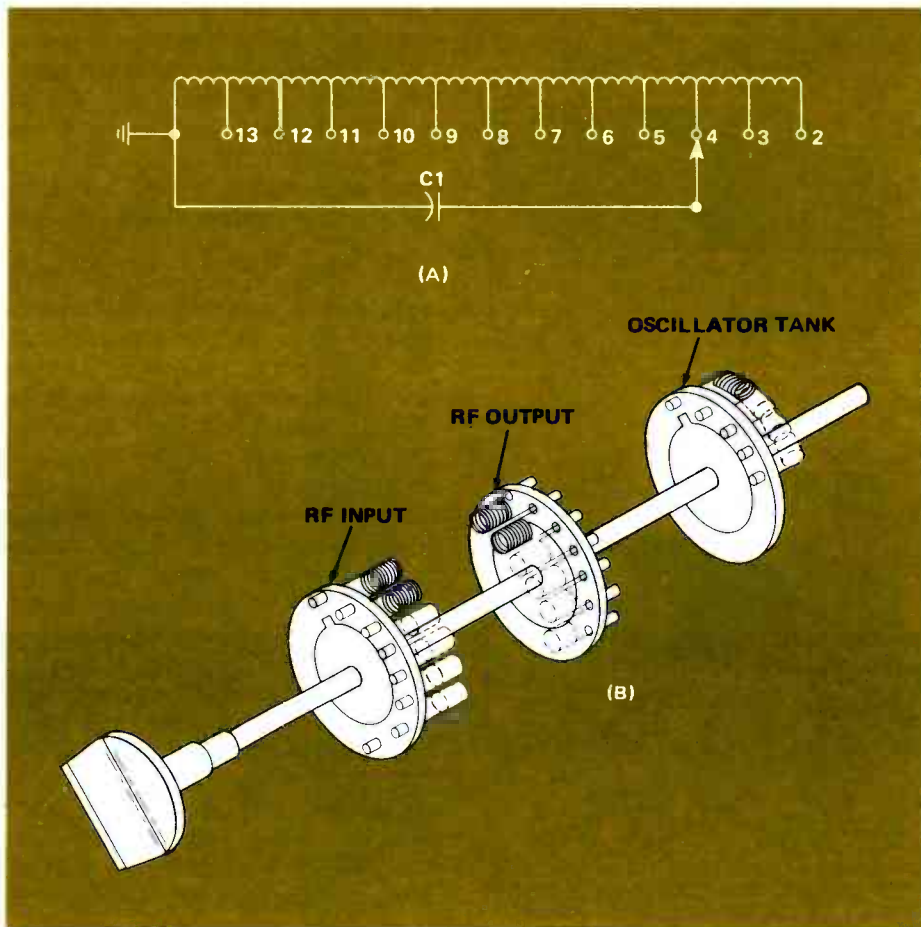

FIGURE 2. ILLUSTRATION SHOWING THE METHOD OF TUNING EMPLOYED IN SOME MECHANICAL TUNERS.
have the capability of receiving all the vhf channels. The local oscillator tank circuits must also tune over this wide frequency range. Figure 2 illustrates one of the ways in which this tuning is accomplished in mechanical tuners.
All of the inductance in each of the three tuned circuits of the TV tuner is mounted on a 3-section, 13-position rotary switch [Fig.2(A)]. As the switch is rotated through the various channel positions, the proper amount of inductance is selected to resonate with C1 [Fig.2(B)] at the desired frequency.
The tuning arrangement shown in Fig.2 has one major shortcoming. Eventually, the plating on the switch contacts wears off. The result is a poor electrical contact and a good deal of electrical noise. This, of course, degrades the picture.
The tuned circuit of Fig.2(B) is tuned by varying the inductance. Tuning could just as easily be accom-